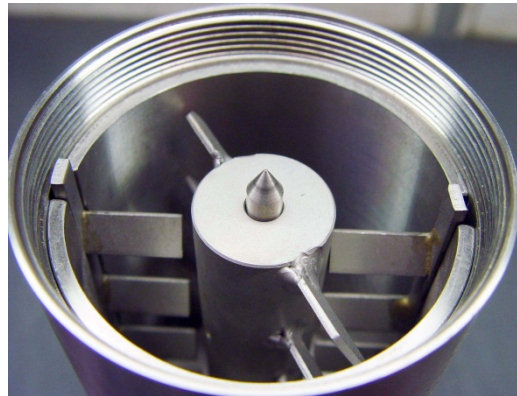

Figure 3-11 Side Blades and Inside Sleeves in Place
9. Place the side blades and both inside sleeves (Figure 3-11).